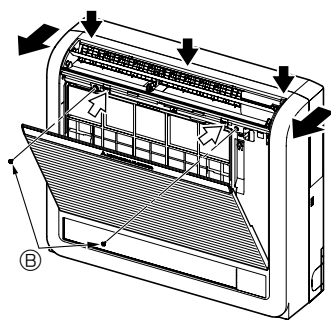
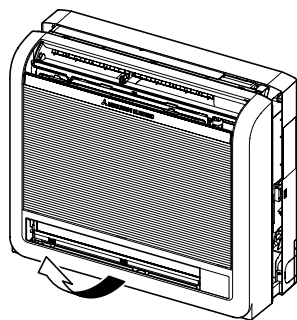

Fig. 3-3
Fig. 3-4
- ① Press the 2 positions indicated by the arrows and open the front grille. (Fig. 3-3)
- ② Open the front grille and remove the 2 screws.
- ③ Open the horizontal vane for the upper air outlet, push the top of the front panel in 3 locations, and then pull the top of the grille away from the indoor unit.
- (B) Screws
- ④ Lift up the front grille to remove it. (Fig. 3-4)